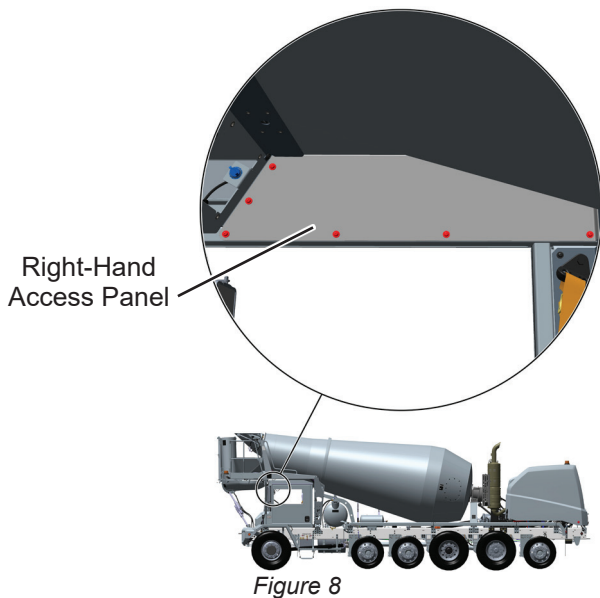

Figure 6
9. Remove four screws and washers securing overhead console access panel. See Figure 6. Save screws and washers for reinstallation of access panel.